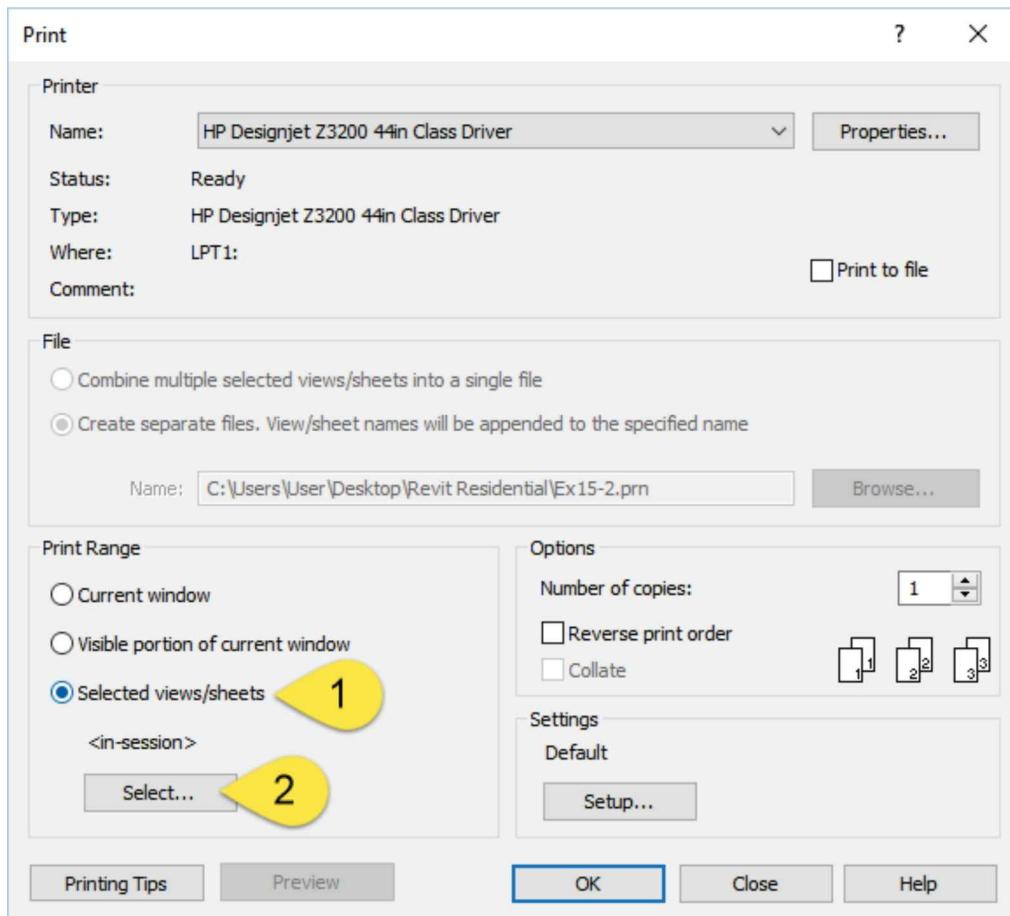

FIGURE 15-3.1 Print dialog box
3. In the *Print Range* area, click the option **Selected views/sheets** (Figure 15-3.1).